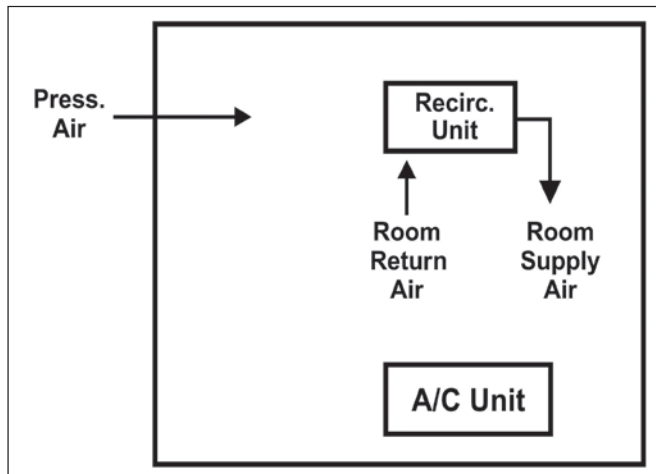

Figure 8: Re-circulation option system used for server/data center application
1. Re-circulation option (as shown in Figure 8),